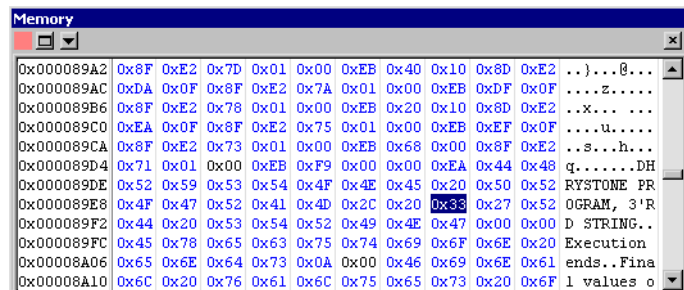

Figure 6-12 Example memory display
6. Use the **Pane** menu, in the Memory pane, to set the start address to 0x89A2 and display the ASCII values, shown in Figure 6-12.